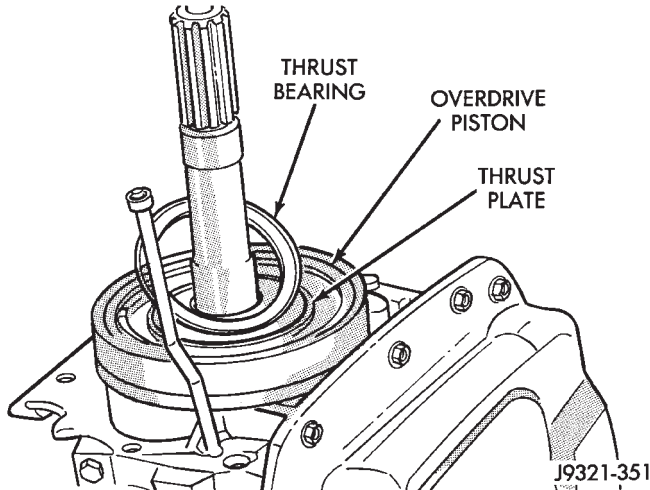

Fig. 193 Overdrive Piston Thrust Bearing Removal/Installation
- (2) Remove overdrive piston thrust bearing (Fig. 193).